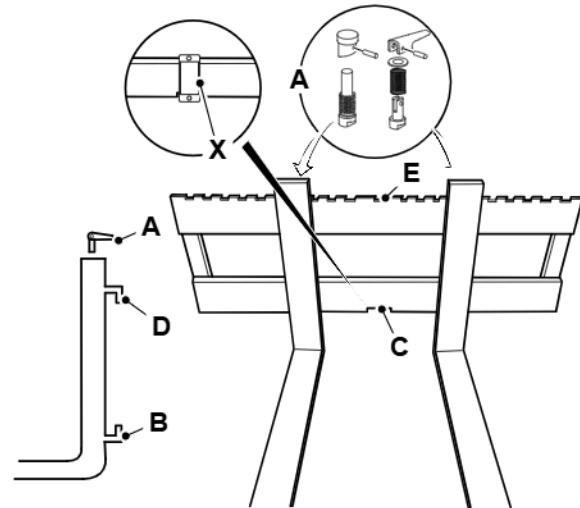

Fig 126.
- 1 If installed, remove the locking clamp **X** from the bottom of the carriage. → Fig 126. (□ 159)
- 2 Release locking pins **A** and slide the fork to the centre of the carriage so it is level with the bottom removal notch **C**. → Fig 126. (□ 159)
Note: Your machine will have either twist and pull or pull type fork locking pins. → Fig 126. (□ 159)
- 3 Lower the forks onto blocks so that the bottom hook **B** disengages from the bottom removal notch **C**. → Fig 126. (□ 159)
- 4 Lower the carriage further so that the upper hook **D** disengages from the top of the carriage **E**. → Fig 126. (□ 159)
- 2 Position the fork so that the upper hook **D** can engage the top of the carriage **E**. → Fig 126. \(□ 159\)
- 3 Raise the carriage to locate the bottom hook **B** in the lower removal notch **C**. → Fig 126. \(□ 159\)
- 4 Make sure each fork has engaged the carriage at the top and bottom positions. Slide each fork along the carriage, away from the lower removal notch **C**. → Fig 126. \(□ 159\)
- 6 Install the locking clamp **X** onto the bottom of the carriage. → Fig 126. \(□ 159\).
- 2 Position the fork so that the upper hook **D** and bottom hook **B** can engage the end of the carriage. → Fig 126. \(□ 159\)